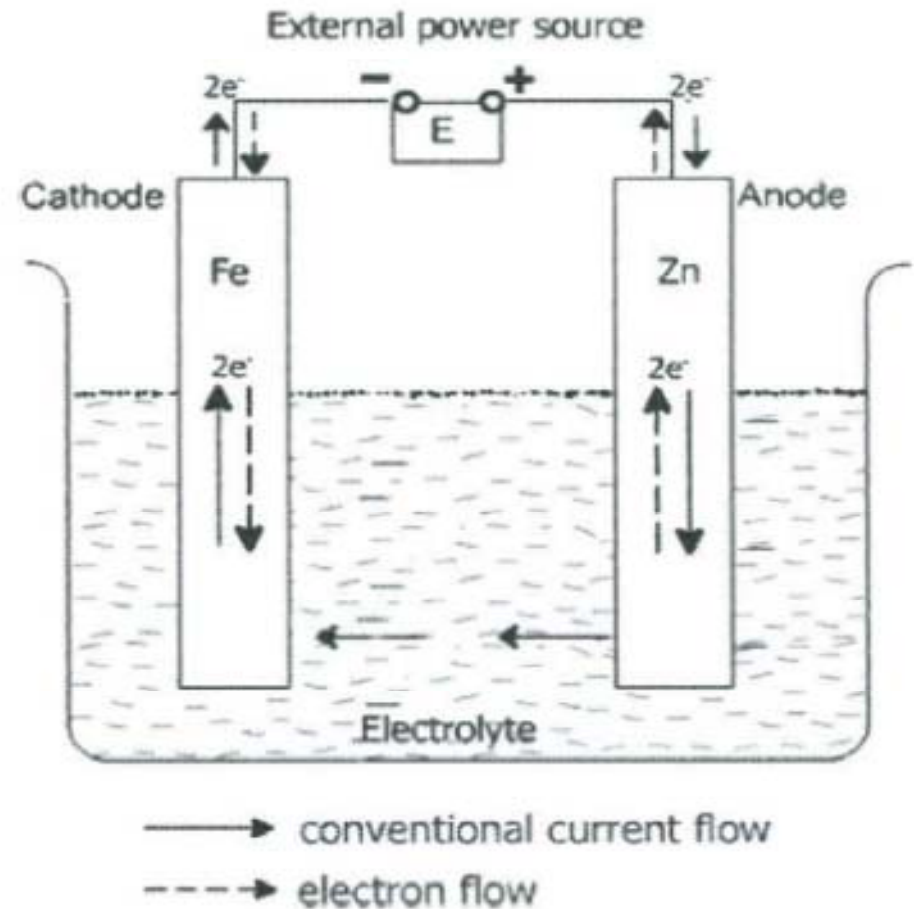

Figure 7 Electrolytic cell. The cathode and anode can be any metal.
- The polarity of an **electrolytic cell** is **opposite** to that in a **galvanic (corrosion)** cell (Fig. 7).